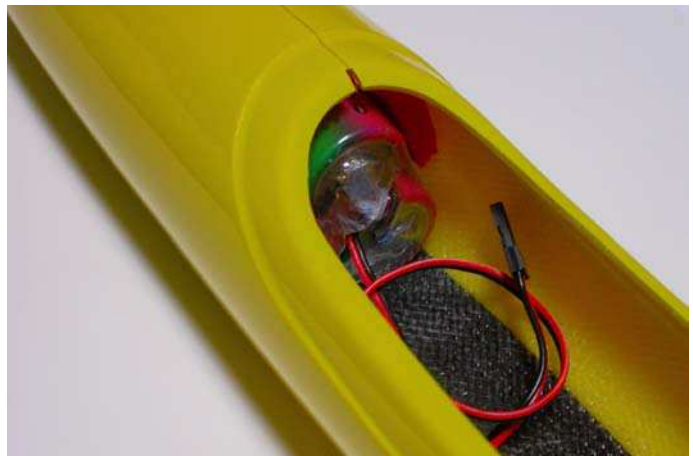

Fig.51: Insert the battery pack.
- firmly insert the battery pack into the fuselage's nose (see figure 51) and check that it keeps the position either turning upside down or shaking the model.